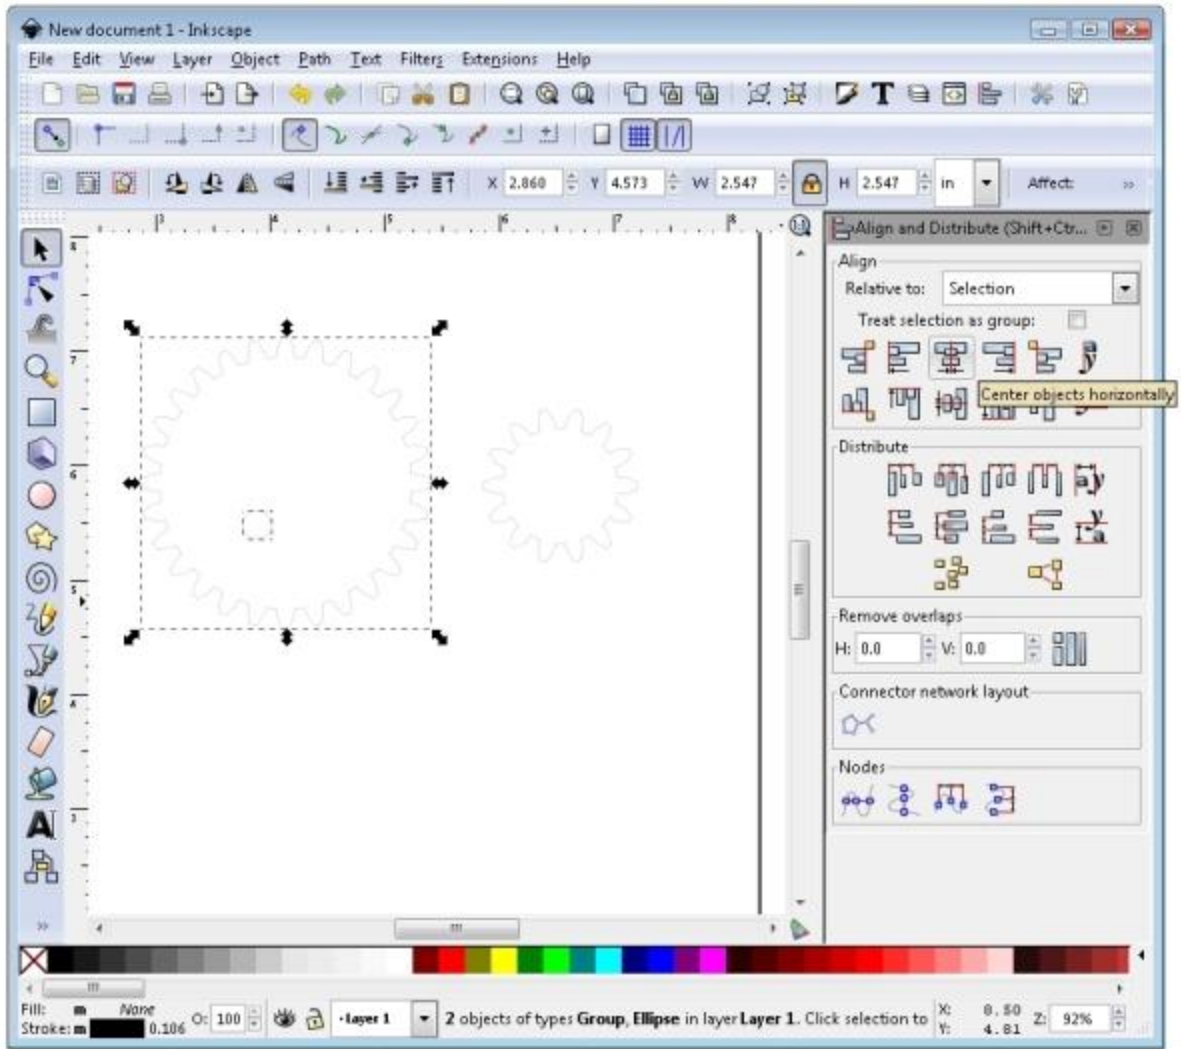

Figure 6
8. Now we need to get this circle in the exact center of the gear. Make sure the arrow selector is active. Click and drag a box around the big gear and the circle to select them both. On the menu bar, go to Object --> Align and Distribute. Click on the "center object horizontally" button highlighted in figure 6, then the one right below it - "center objects vertically." Now you have a gear with a hole perfectly centered! Copy and paste this circle and repeat this step to center a circle in the other gear.